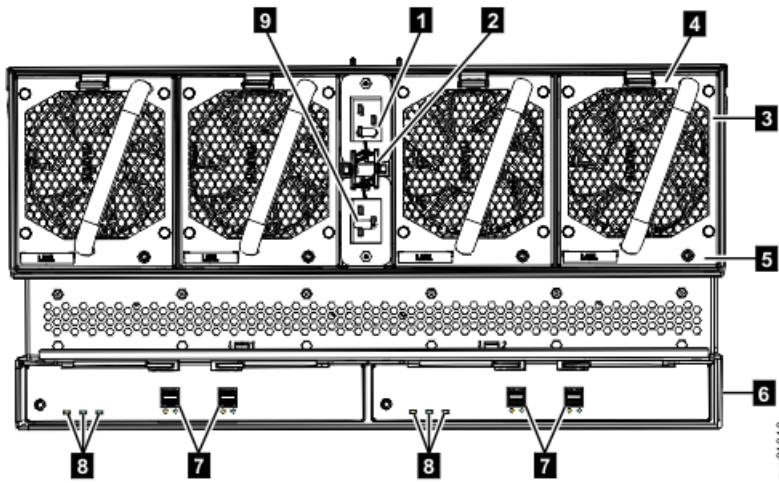

Figure 54. Features on the rear of the Model 092 expansion enclosure
3. Verify that the expansion enclosure and its components are operating as expected. On the back of the expansion enclosure, all four fans and the expansion canister indicators (3 and 8 in Figure 54 on page 64) become active when the power is connected.